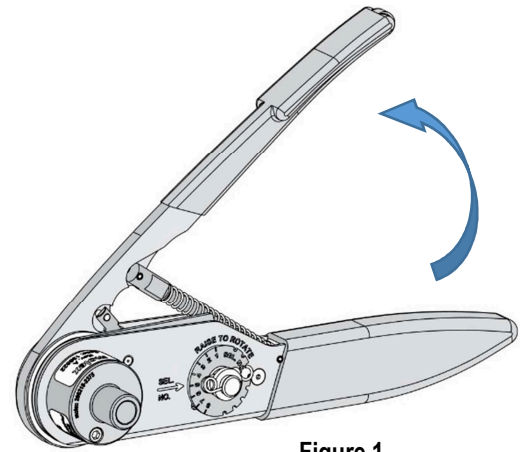

Figure 1
1. Open the tool by closing the jaws until the ratchet mechanism releases the tool to the open position. The tool must be in the open position. See Figure 1.